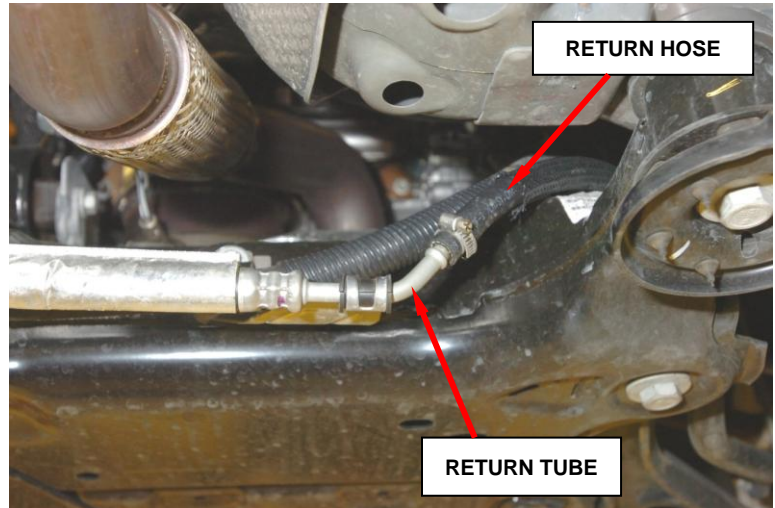

Figure 6 – Disconnect Return Hose
5. Remove the return hose at the return tube and allow any fluid in the hose to drain into a catch pan (Figure 6).